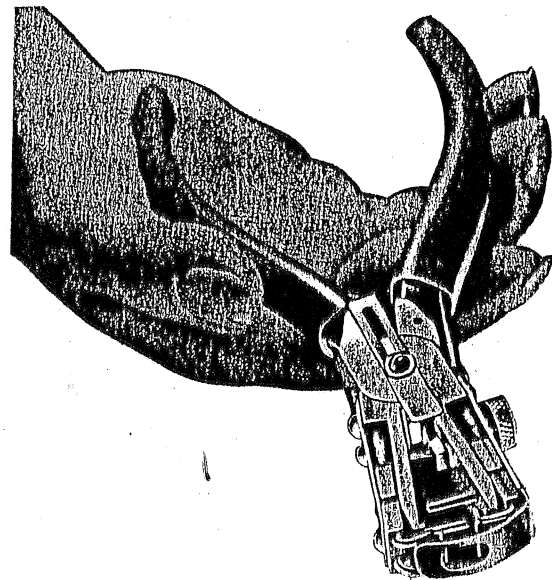

FIGURE 14-3(c): Pioneer Thermal Wire Stripper
2. Automatic single squeeze wire strippers, such as that shown in Figure 14-3(b), practically eliminates nicking and cutting of wire, and it won't crush the wire or fray the ends of the insulation. It can strip up to 7/8 inch wire with one light squeeze of the contoured handles. The jaws stay open after stripping off the